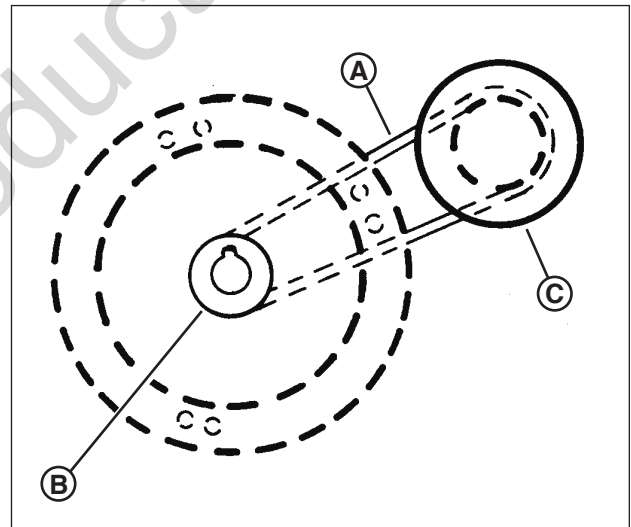

Figure 33: Engine drive belt routing
On self-propelled mowers, the engine belt (**A**, **Figure 33**) transmits power from the engine pulley (**B**) to the drive disc (**C**). The drive disc powers the poly-v belt, which engages the transmission that powers the rear wheels. Should these belts become worn, they could cause slippage, which would impair mower performance.
2. Note the belt routing (**Figure 33**). There is no idler pulley on these models to disconnect.